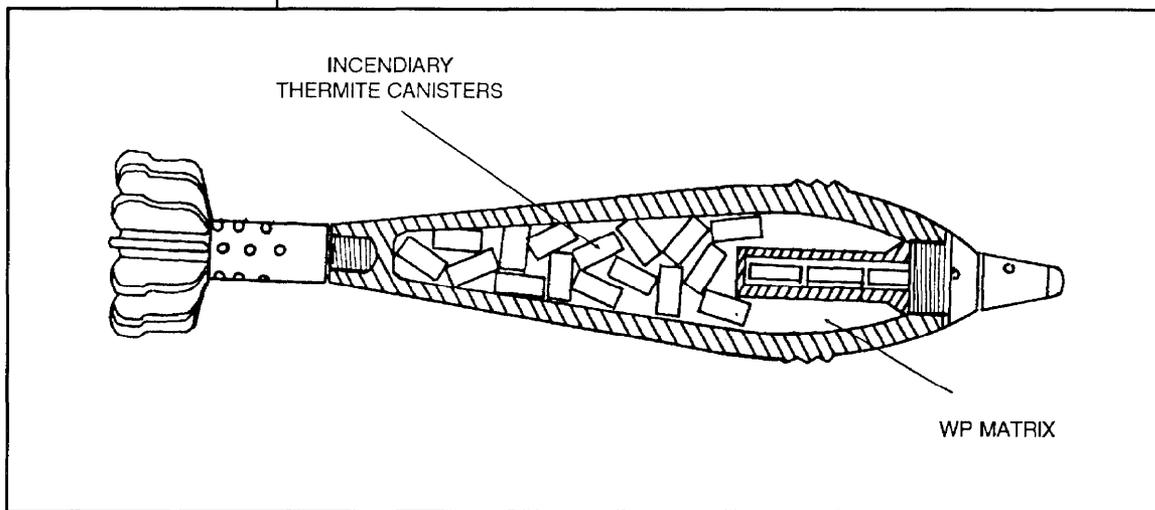

Figure 7-1. The 120-mm incendiary mortar round.
(1) Incendiary rounds are filled with thermite canisters in a WP matrix. When these rounds burst, they produce some fragmentation and dense smoke from the WP. The thermite canisters scatter and burn intensely, causing fires in exposed ammunition and fuel (Figure 7-1).